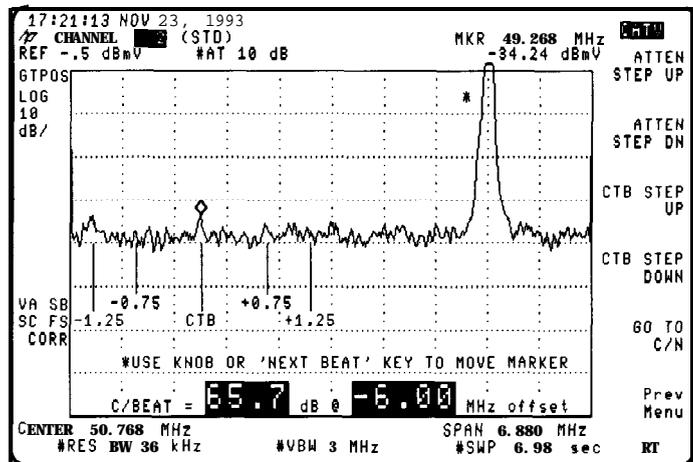

Figure 2-18. CTB Measurement
7. Remove the carrier, or press CTB STEP UP or CTB STEP DN to measure CTB above or below the carrier (if an open space exists). Each time **CTB STEP UP** is pressed, the marker is automatically positioned at the next CTB above the carrier (+6 MHz increments). Each time **CTB STEP DN** is pressed, the marker is automatically positioned at the next CTB below the carrier (-6 MHz increments). See Figure 2-18.